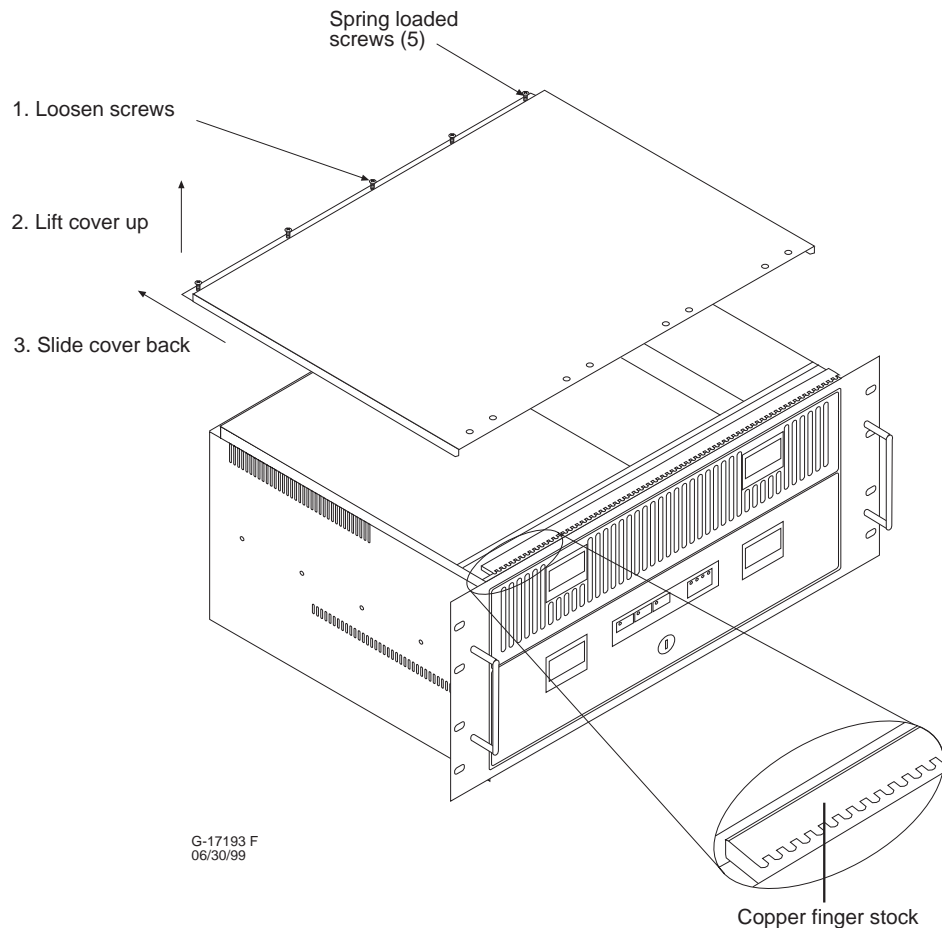

Figure 2-8 Removing the System Controller cover
- a. Loosen the five spring-loaded Phillips head screws at the rear (top) of the chassis (Figure 2-8).